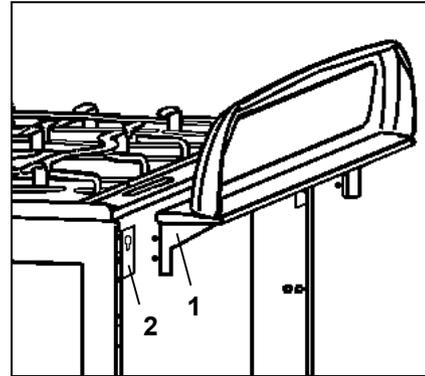

fig. 22
Introduce the screws of the back panel fixing (1) into the seats of supports (2) and push it downwards to the bottom of seats (fig. 22).